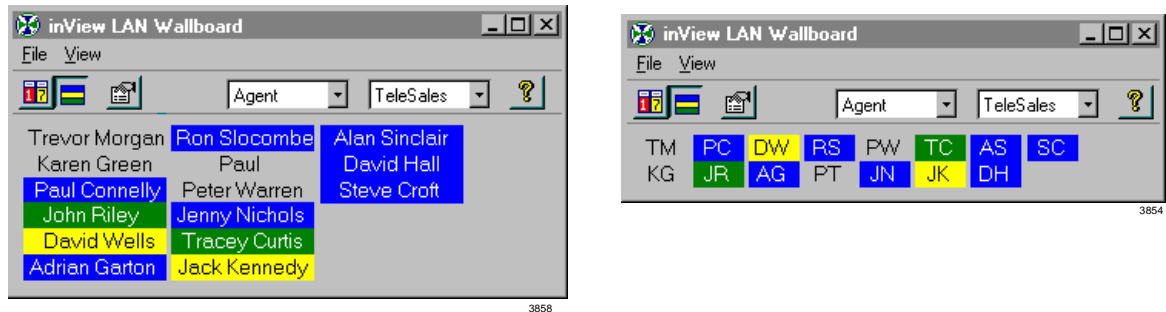

Figure 28 Sample inView Agent Status Display (Long Names and Short Names)
- ◆ Status view shows the status of individual agents with either long or short names (see Figure 28). The status is presented using a colored background to represent each agent's status.